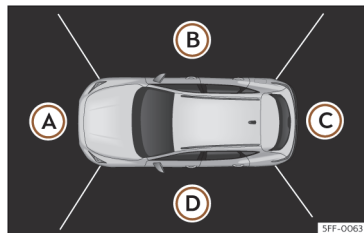

Fig. 185 Viewing the top view system: aerial view.
Function buttons **Fig. 185**:
The aerial view is generated by combining the images from all the cameras  **>>> Fig. 185**. The aerial view can be selected by pressing the *vehicle* in the area.
Select the corresponding view by pressing the different areas **>>> Fig. 185 (A) to (D)** of the aerial view or the reduced aerial view.